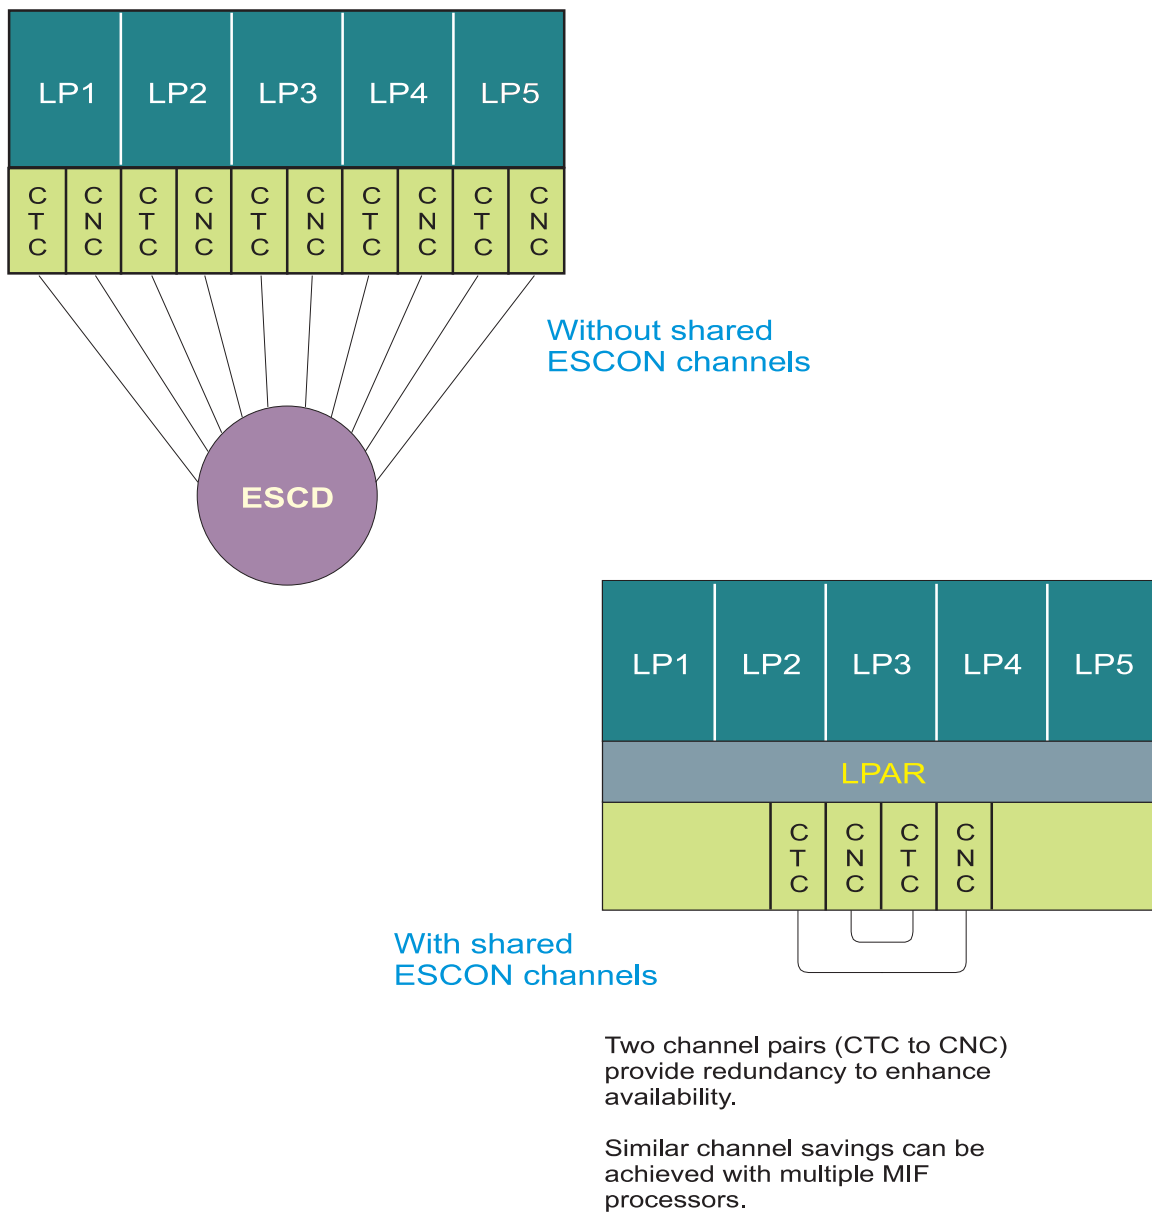

Figure 15. Consolidating ESCON channels used for ESCON CTC communications
*ESCON CTC Configurations:* Figure 15 on page 52 shows how shared ESCON channels can reduce the ESCON channel requirements for ESCON CTC configurations. In this example, the CPC requires CTC